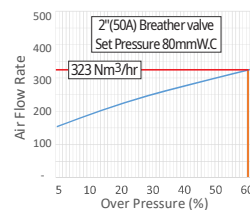

Figure 01
- Example (Check figure 01 & 02)